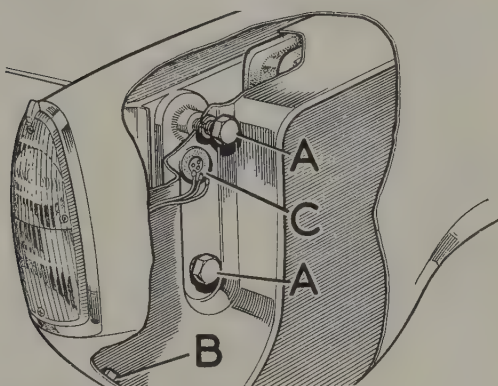

Fig. 12.40. Front wing attachment at front end
- 7 Refer to Fig.12.40 and undo and remove the two screws "A" from the underside of the wing.